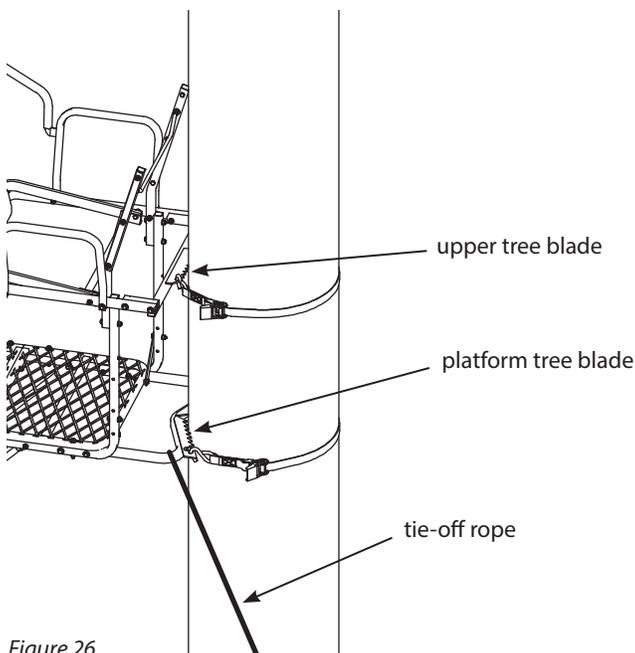

Figure 26
4. Standing on ladder step, lean toward tree with ratchet strap now in hand, hook "S" hook with long strap through hole provided on tree blade. Feed the long strap through the center (slot) of ratcheting mechanism and back around through tightening lever. **SEE FIGURES 26 and 27.**
**SEE FIGURES 26, 27, AND 28.** Once seated, shooting rail can now be seated down over studs. **SEE FINISHED LADDER ILLUSTRATIONS.**
**BRING RATCHET STRAP(S) UP WITH YOU IN A POCKET- DO NOT CARRY IN YOUR HANDS!**